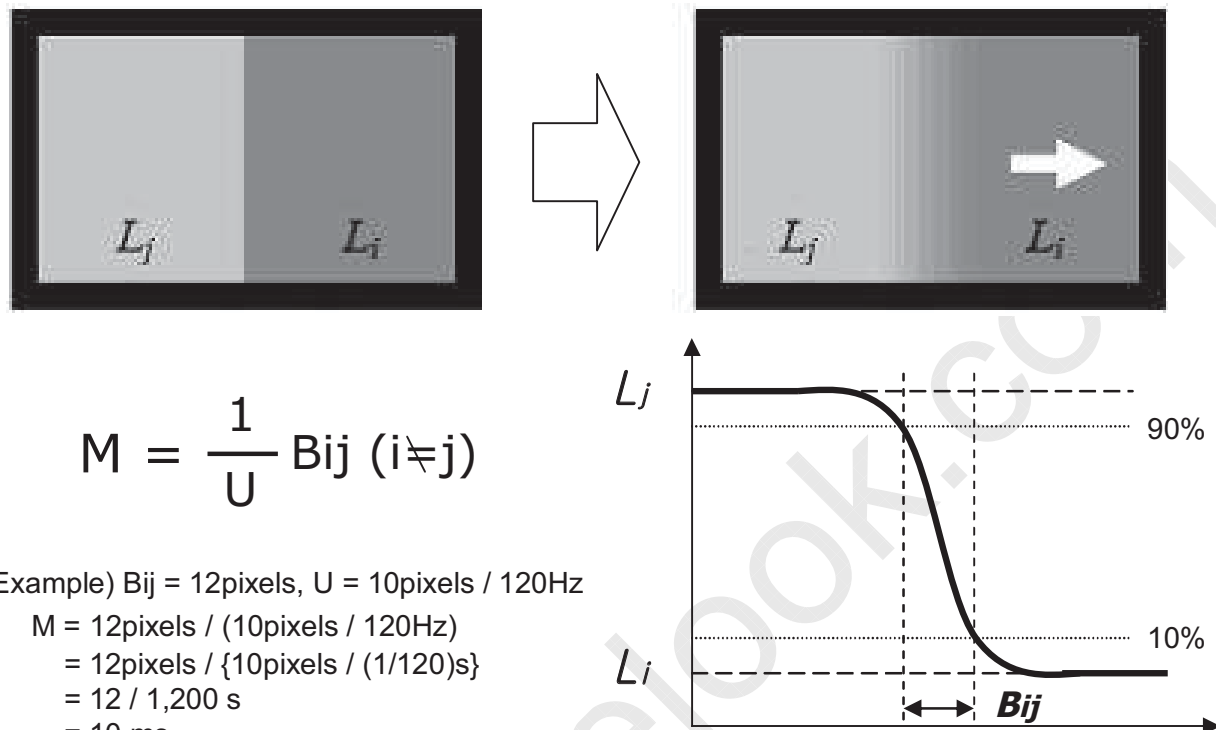

FIG. 4 MPRT
5. MPRT is defined as the 10% to 90% blur-edge width  $B_{ij}(\text{pixels})$  and scroll speed  $U(\text{pixels/frame})$  at the moving picture. For more information, see FIG 4